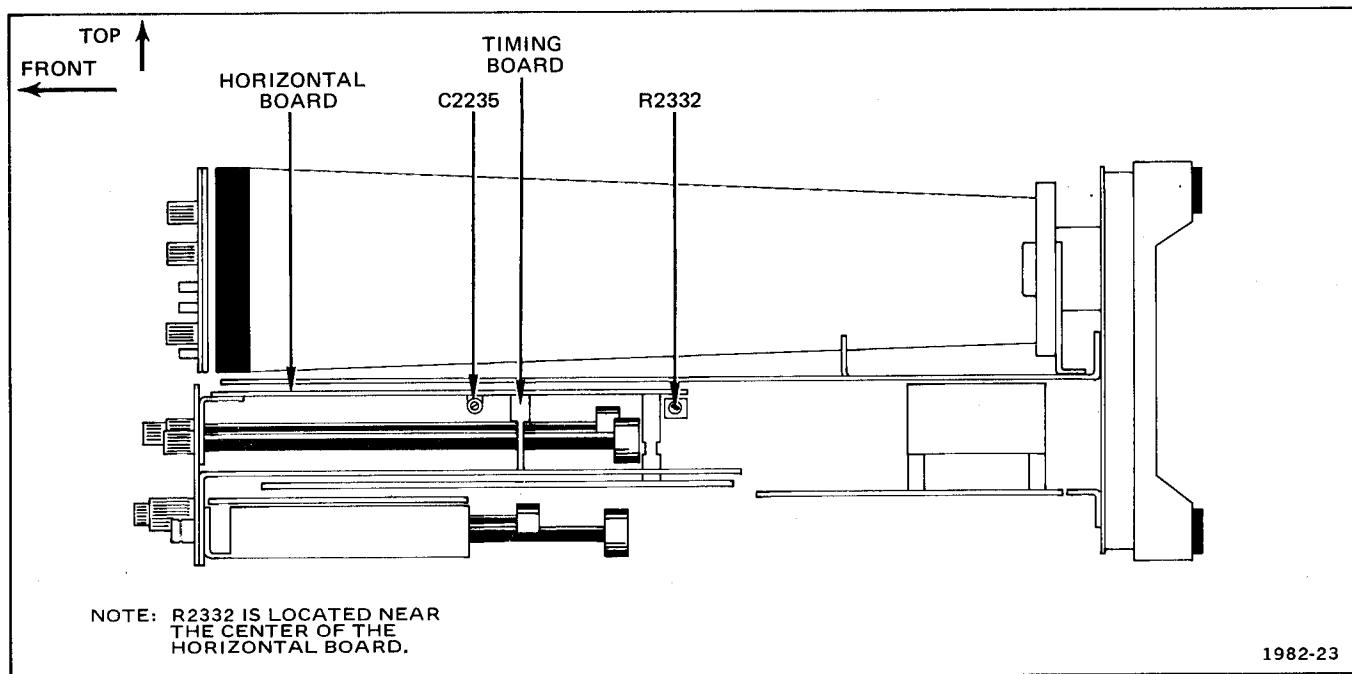

Fig. 4-6. Time base adjustment locations.
- ADJUST—Horiz Cal R2332 (see Fig. 4-6 or Fig. 4-1B) and horizontal POSITION control for 1 time marker per division over center 8 divisions.
- ADJUST—C2235 (see Fig. 4-6 or Fig. 4-1B) and horizontal POSITION control for 1 marker per division over center 8 divisions.